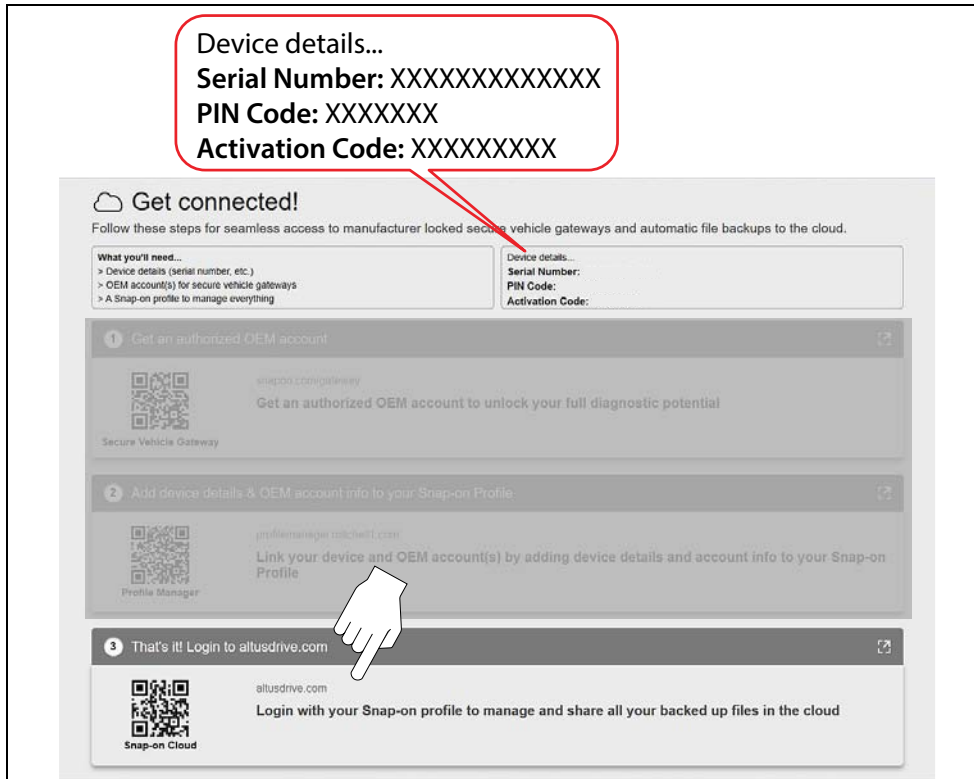

Figure 17-1
2. From the Home screen, select **System Settings** > **Get Connected**, and write down the Serial Number, PIN and Code that are displayed (Figure 17-1).
The PIN and Code numbers will change each time you view the Get Connected screen (Figure 17-1). This is normal, any displayed set of PIN and Code numbers may be used to register.
3. Select the weblink (Figure 17-1) to open the Login page.